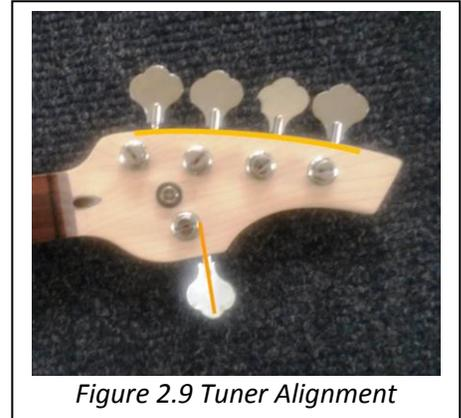

Figure 2.9 Tuner Alignment
3. As the Headstock is curved, ensure that the Tuner shaft alignment follows the curvature Headstock (Fig. 2.9).
4. Check alignment of set screw holes (4) and tuner base.